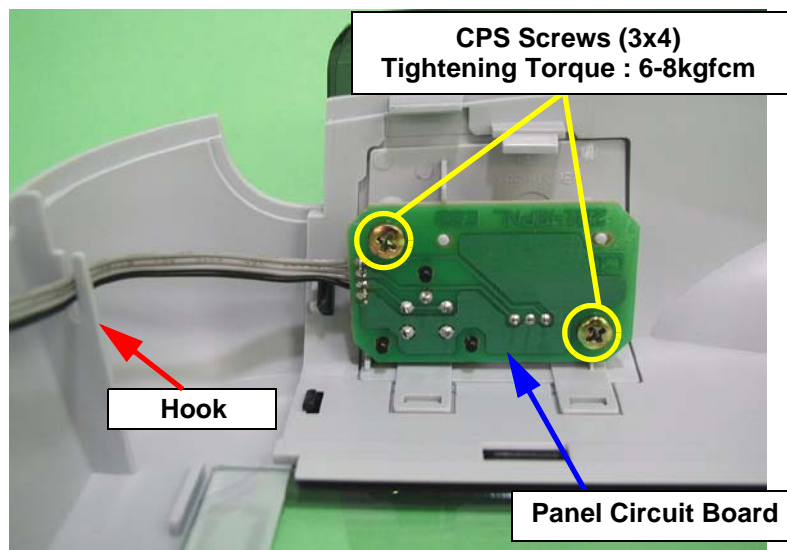

Figure 4-9. Panel Circuit Board Removal
4. Remove the two screws (CPS, M3x4), and then remove the panel circuit board. (See Figure 4-9)